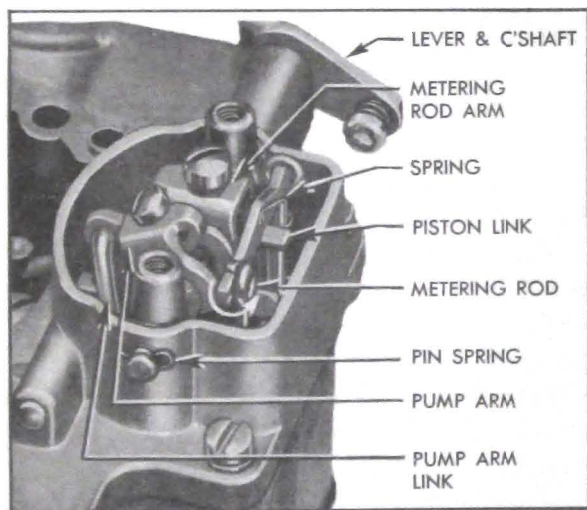

Figure 3-28—Removal of Metering Rods and Operating Parts
5. Loosen screws in metering rod and pump arms, and remove pump arm link. Remove pin spring from end of pump operating countershaft, pull countershaft out and remove arms at the same time. See figure 3-28.
18. Coat pump operating countershaft with light graphite grease and start it into bearing in bowl cover. While holding metering rod arm so that it engages opening in vacuumer piston link and pump arm so that it extends over pump plunger rod, push countershaft through both arms, then install pin spring in groove in end of countershaft. See figure 3-28.
22. Insert end of each metering rod in hooked end of metering rod spring, carefully push rod down to enter metering rod jet, then rotate eye of rod over pin on vacuumer piston link. Use care to avoid bending metering rod. See figure 3-28.